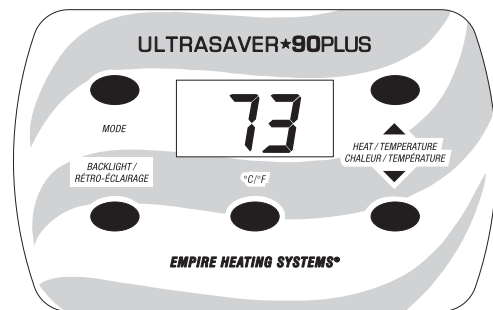

Figure 9
2. Use the up and down adjustment buttons on the display panel to set the desired room temperature. The display will illuminate and the word "SET" will appear in the top right corner of the display. **See Figure 9.** After the temperature is set, the display panel will darken and return to displaying the room temperature.